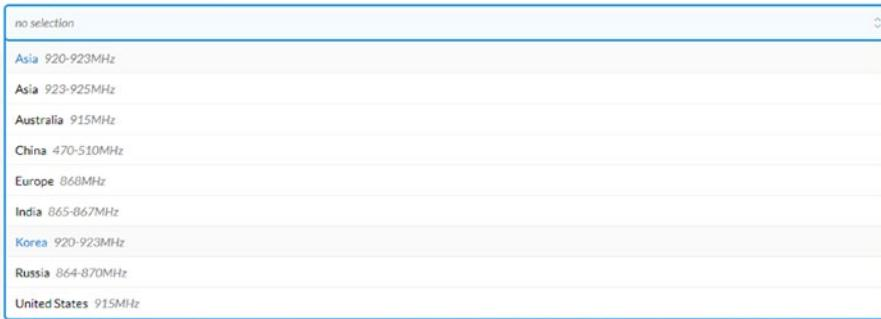

Figure 8-15. Frequency plans for different regions
- **Frequency Plan:** Choose a frequency plan from the list (e.g., Europe 868MHz) to match your gateway’s frequency. It doesn’t show a frequency plan for EU433. However, if your gateway supports 433 MHz, you can use any frequency plan from the list. This will not affect the correct operation of your gateway (Figure 8-15).